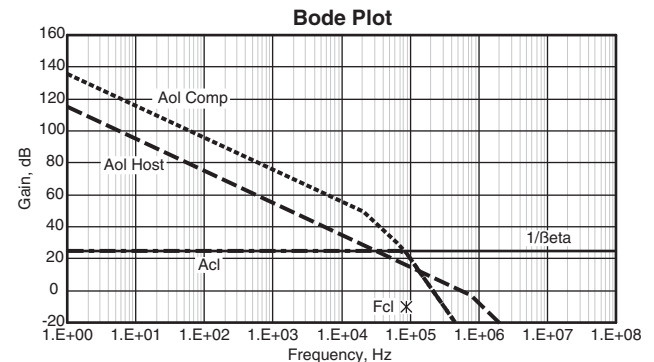

FIGURE 29.
STEP 2: Create composite Aol: Refer to Figure 29 which shows addition of closed loop gain of PA241 to OP07 Aol on dB plot to yield net Composite Aol.